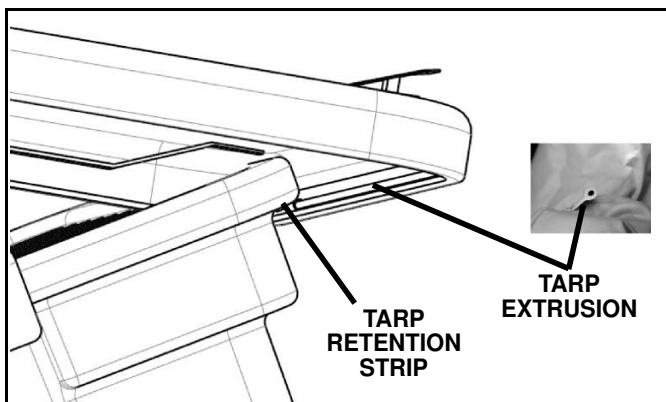

Figure 2
2. Install (4) self-tapping screws (#5) through the holes in the retention strip into the hopper lip.
3. Insert the tarp white plastic extrusion on the bottom front edge of the tarp into the aluminum retention strip on the hopper. Slide the tarp across the spreader to insert the full length of the plastic extrusion into the retention strip channel. (See Figure 2.)